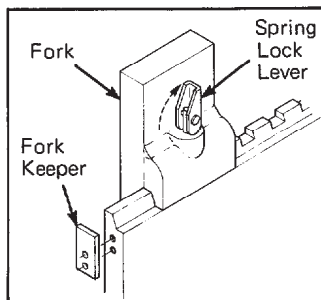

Figure 6. Release the Spring Lock
1. Remove the fork keeper at one end of the carriage. See Figure 6.
2. Release the spring lock on the top of each fork as shown in Figure 6.